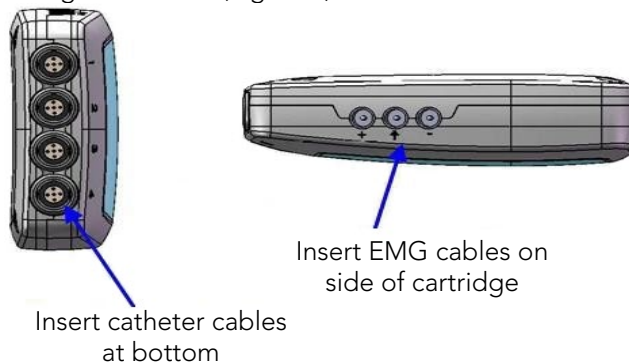

Figure 4: UMS Roam Connections Setup
- Insert the EMG cables to the **UDS Roam™** cartridge with the ground cable connecting to the center opening marked with the ground symbol. Attach the P1 cable into the port labeled "1" on the cartridge; P2 cable into the port labeled "2" on the cartridge and so on (Figure 4).